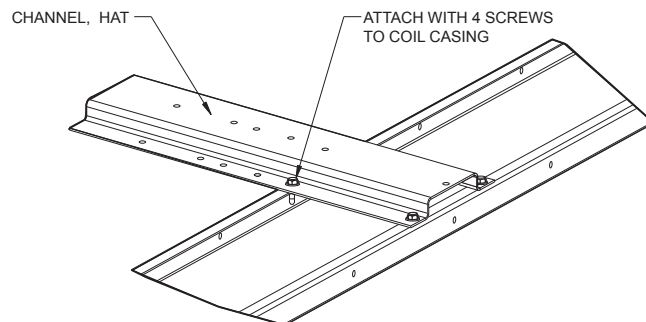

Fig. 203 — Spacer (Hat Channel)
11. Remove the spacer (hat channel) secured to the top center of the lower coil casing (see Fig. 203) and set aside.